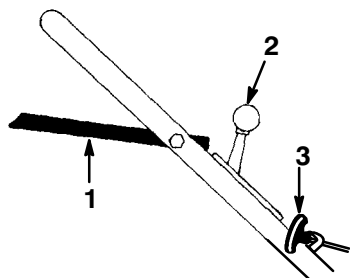

Figure 9
The blade control bail, the throttle control, and the starter handle are on the upper handle as shown in Figure 9.
3. Move the throttle control to the  (Choke) position (Fig. 9).
4. Pull the starter handle (Fig. 9) lightly until you feel resistance, then pull it sharply.